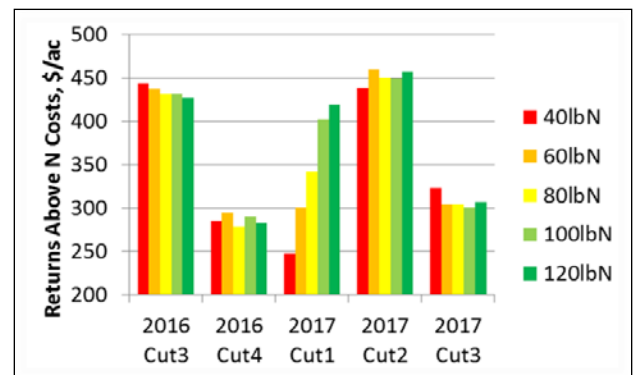

Figure 3 Profit response in dollars per acre to nitrogen rates by cutting
highest yield-response to nitrogen. This suggests that the heaviest amount of nitrogen should be applied to a Tifton 85 Bermudagrass field as it is coming out of dormancy each year, and nitrogen can be applied in lesser rates as the growing season progresses. Increasing crude protein (CP) content of the hay was noticed in each harvest with respect to increasing nitrogen rates, as was increasing moisture content. While yield increases were not detected for every harvest in this study, the increase in moisture content at the time of baling and CP content, suggest that the increasing nitrogen rates are having some effect on the grass. To better understand these effects, the relationship of temperature and growing length needs to be further investigated. Since the primary reason for producing hay is to feed livestock, the value of the hay grown was established as a function of CP content. Due to nitrogen directly affected the CP content with all other crop inputs were held uniform, the economic analysis for this portion of the project was reported as returns above nitrogen cost. A linear regression model was developed based on grass hay sold at hay auctions all across the country where hay was sold by the tonnage for three different categories: (1) fair grass hay (5-9% CP); (2) good grass hay (9-13% CP); and (3) premium hay (>13% CP). Using this model it was concluded that profits were maximized for the first harvest of 2017 when the highest rate of nitrogen was applied, but lower nitrogen rates during the remainder of the growing season proved to be more beneficial in terms of profit (Figure 3).